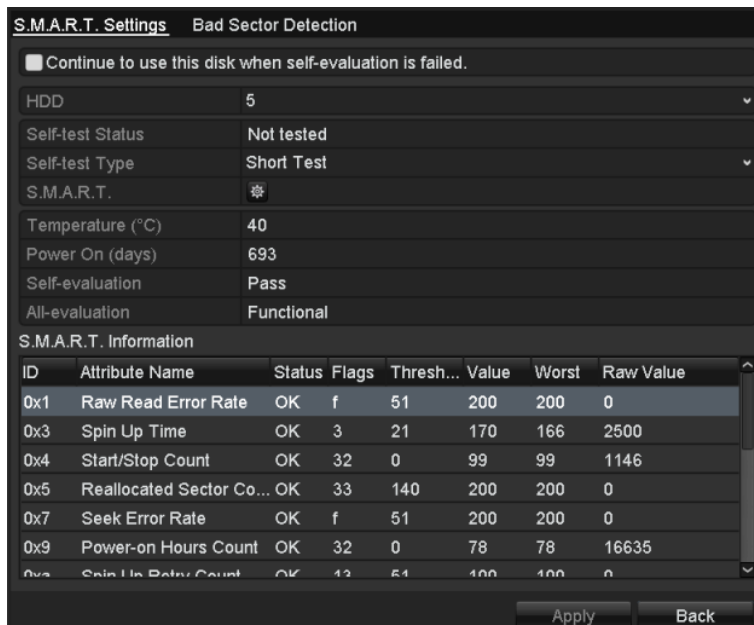

Figure 12-24 S.M.A.R.T Settings Interface
Step 3 Select the HDD to view its S.M.A.R.T. information list, as shown in Figure 12-24.